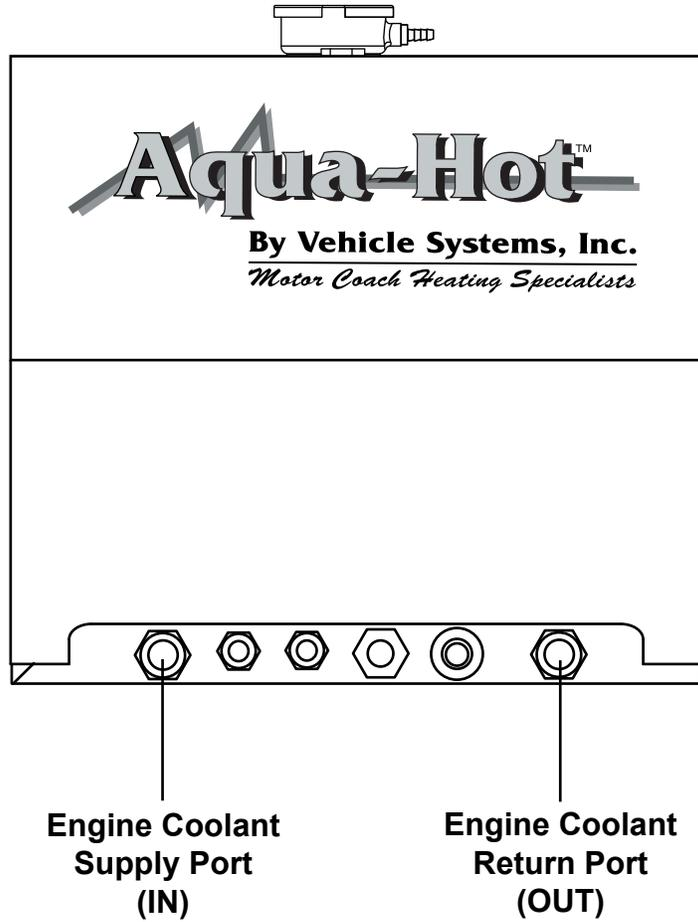

Figure 18
7. Attach and clamp the Engine’s **Supply** Plumbing Line to the Aqua-Hot’s “**IN**” connection; reference Figure 18.
8. Attach and clamp the Engine’s **Return** Plumbing Line to the Aqua-Hot’s “**OUT**” connection; reference Figure 18.